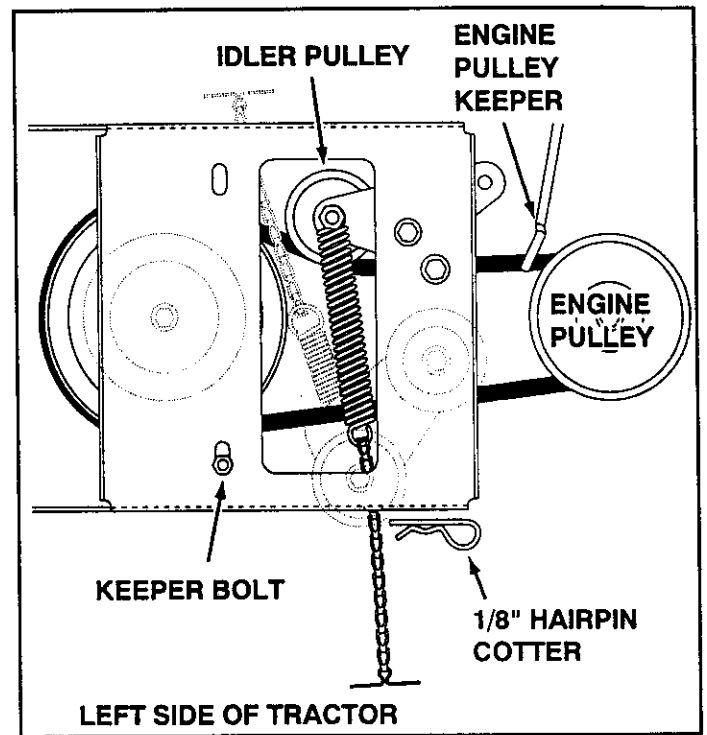

FIGURE 15 VIEWED FROM UNDERNEATH
- Assemble the short "V" belt onto the engine pulley so that it passes between the pulley and the engine pulley keeper. Next assemble the belt onto the large rear pulley on top of the clutch/idler assembly, passing it between the pulley and the keeper bolt located beside the pulley. Position the idler pulley against the outside of the belt. See figure 15.
- Place tension on the belt, by pulling the left side tensioning chain as far out as the assembled hairpin cotter will allow. Secure the chain in this position with a 1/8" hairpin cotter. See figure 15.